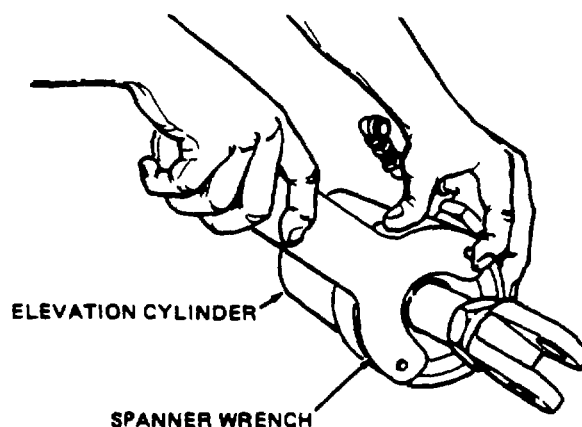

Figure 3-112. Elevation Cylinder Wear Limits
(1) Remove lockwire from locknut (2) and lockwasher(3), loosen locknut(2), unseat lockwasher (3), and unscrew rod end (1) from piston assembly (20).
(2) Remove locknut (2) and lockwasher (3) from rod end (1).
(3) Using spanner wrench, special tool 5120-00-991-3175 (fig. 3-112) , unscrew retainer assembly (4) from cylinder (19). Remove parts (4A through 4G) and parts (4J and 4K) from retainer (4H).
(4) Remove piston assembly (20) from cylinder (19) and remove parts (20B, 20C and 20D) from piston (20A).
(5) Loosen nut (16) and remove reducer elbow (15) and associated parts (16, 17 and 18).
(6) Loosen nut (10) and remove union (9) with associated parts (10, 11 and 12).